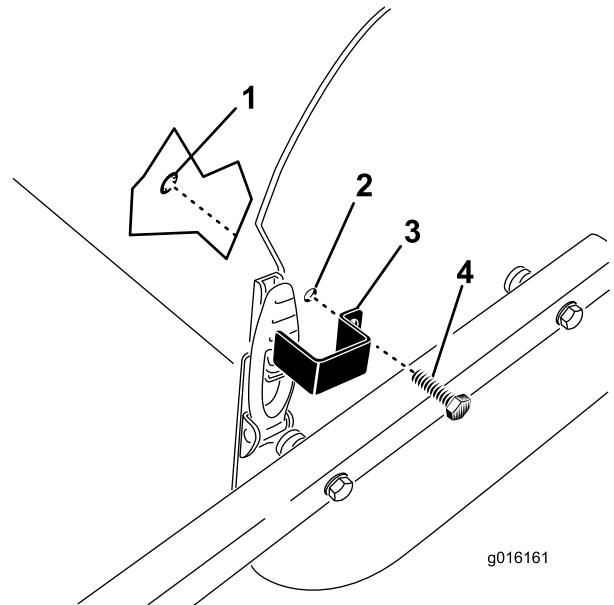

Figure 35
1. Position the latch plate over the hood latch while aligning the mounting hole with the hole in the side plate (Figure 35).
2. Secure the latch plate to the side plate with a tap bolt and a retaining ring (Figure 35).